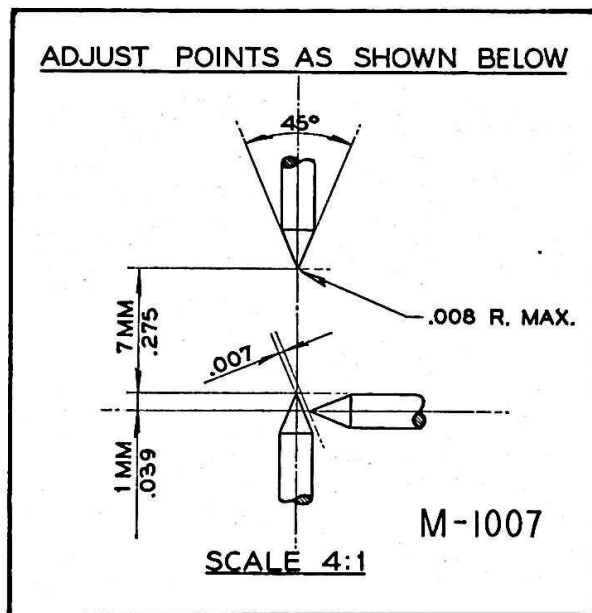

Figure 16 - Correct Setting of Standard 7 mm., 3 point Spark Gap.
b. Connect the high tension cables to the spark rack set with 7 mm. gaps. (See figure 16.) Run the magneto at normal speeds for two or three minutes to observe mechanical operation.